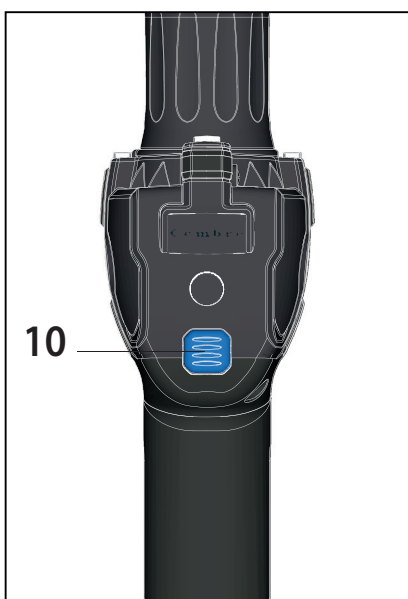

FIG. 7
The tool can be easily carried using either the main handle (4) or the shoulder strap attached to the two eyelets of the wrist strap (9) (see FIG. 7).